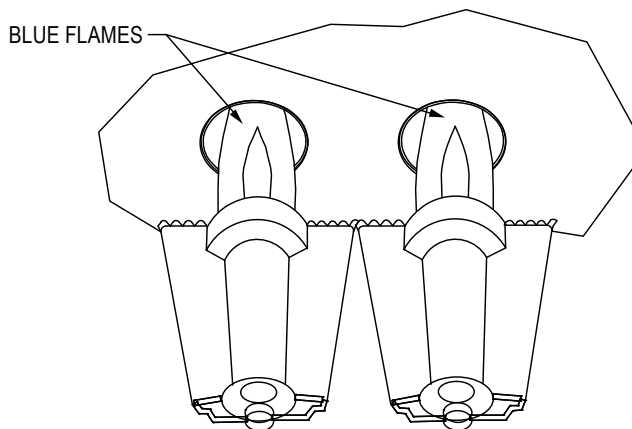

FIGURE 41 - Burner Flames
5. The burner flames are proper; being drawn into the heat exchanger tubes, not lifting, blue in color, or not being distorted by fan operations (see **FIGURE 41 - Burner Flames** below).